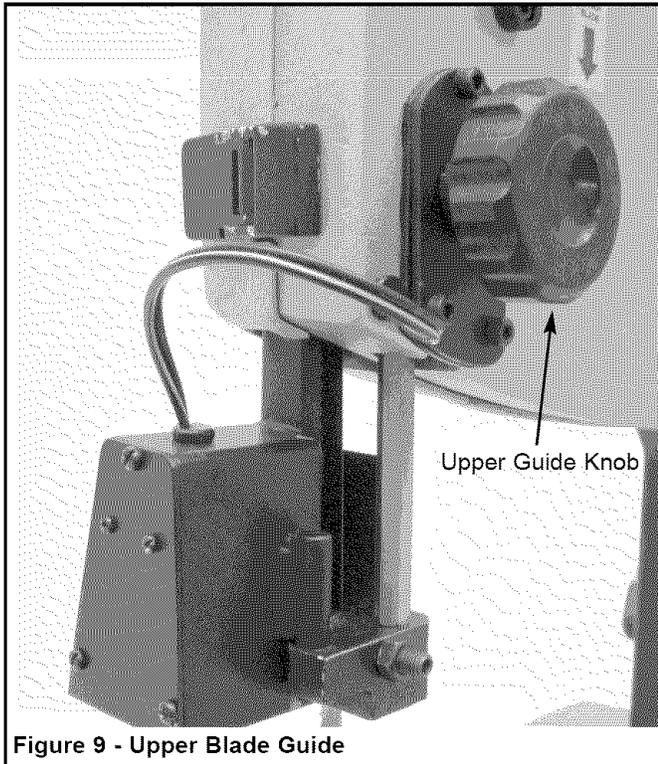

Figure 9 - Upper Blade Guide
- Adjust the height of upper guide to clear the work-piece by 1/4". Loosen upper guide knob (see Figure 9) and adjust height of upper guide until it clears workpiece by 1/4". Tighten upper guide knob.